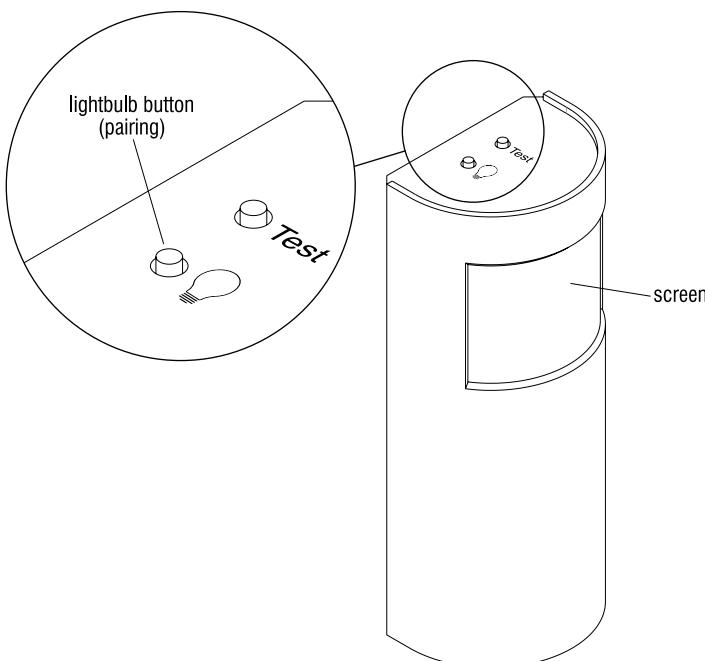

Figure 9 - Occupancy Sensor Top
6. Test the pairing of the occupancy sensor by pressing the LIGHT BULB button once, which should turn the fans on, and press the button again to turn them off (Figure 9).
10. Test the pairing of the occupancy sensor by pressing the LIGHTBULB button once, which should turn the fans and lights on, then press the button again to turn them off (Figure 9).